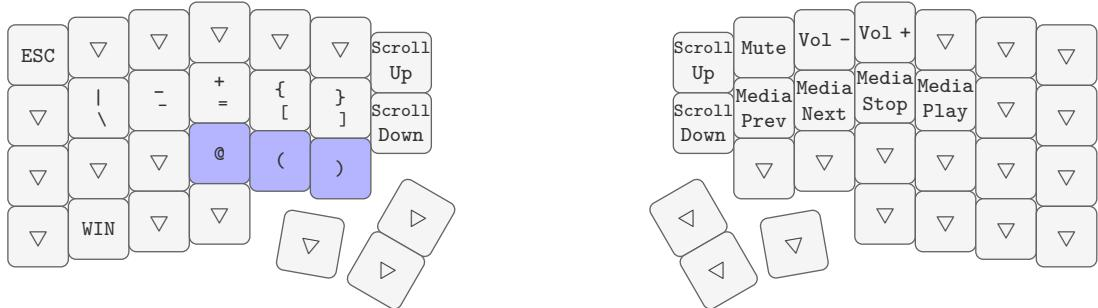

Figure 7: Double thumb key layout for layer 1
- Layer 1 single thumb key (figure 7)